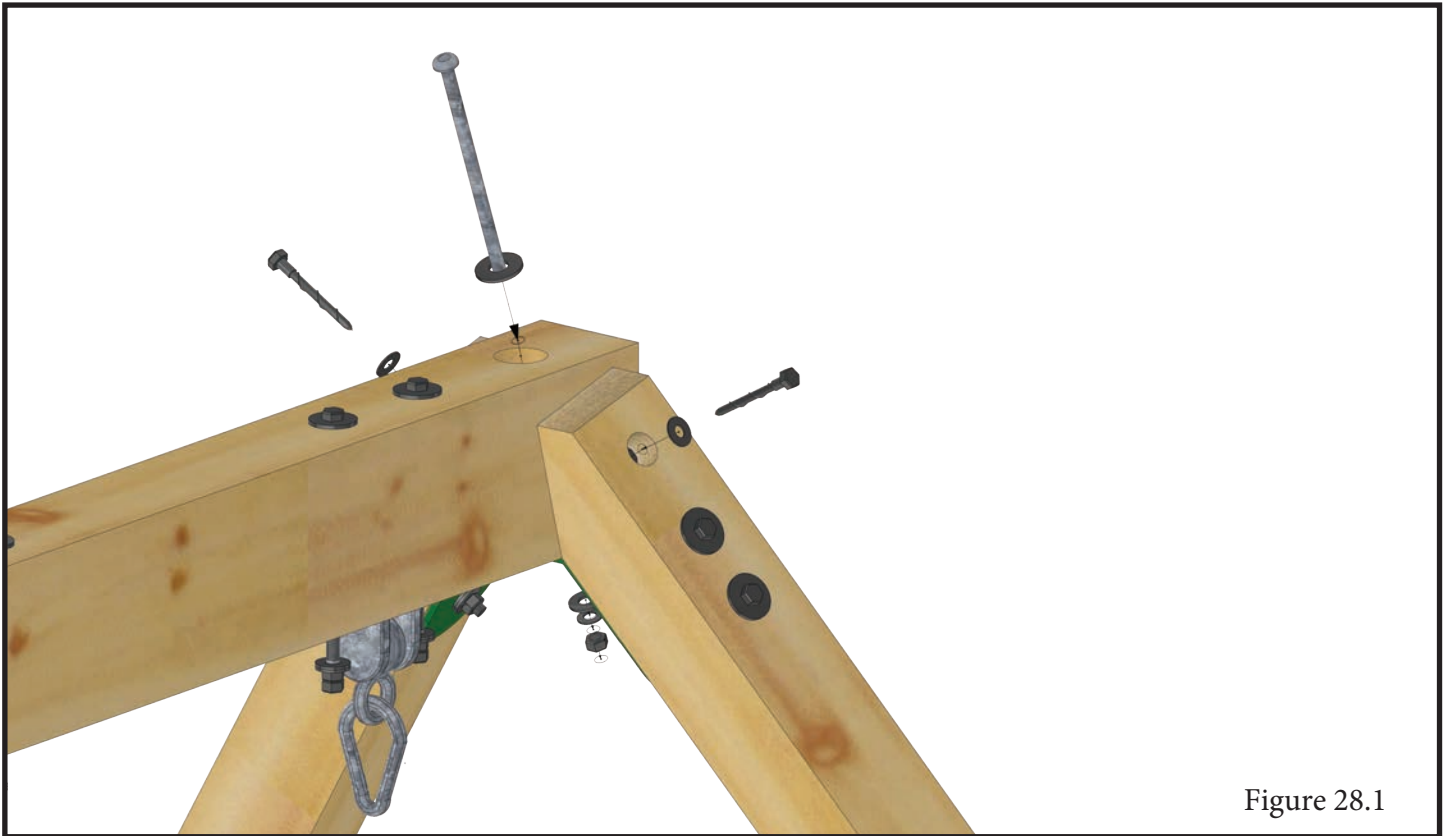

Figure 28.1
28.3 Fasten the top of the Swing Legs into the Swing Beam with 5/16" x 3" Lag Bolts with 5/16" washer as shown in Figure 28.1.